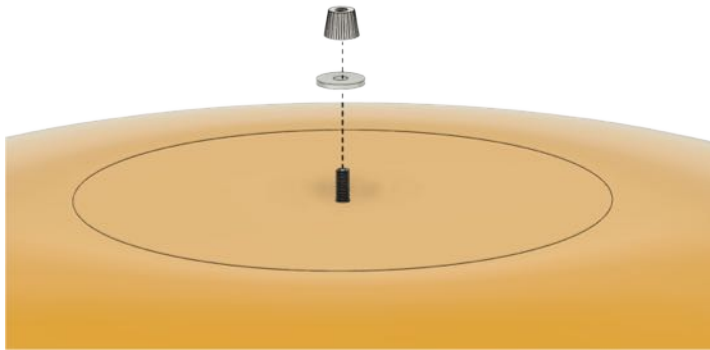

Abb. 9
6. Remove the nut with the washer on top of the cover (Fig. 9).